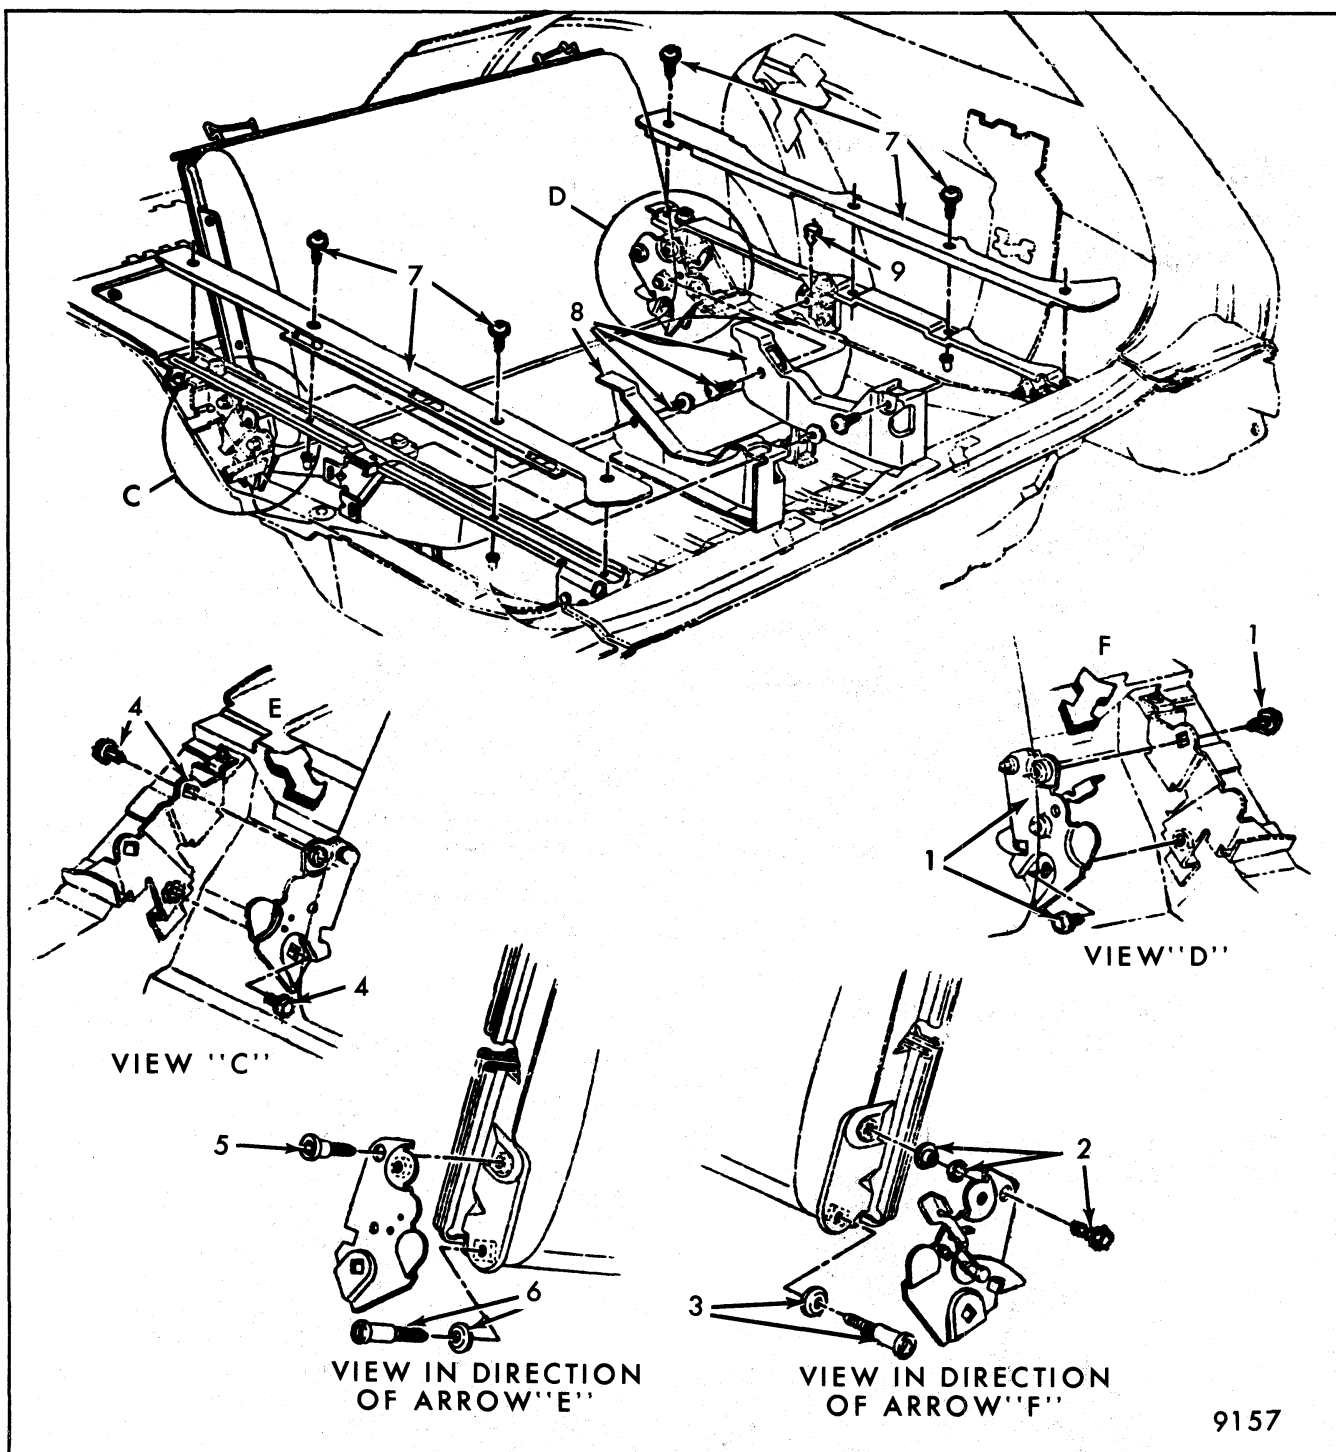

Fig. 9-90-Folding Third Seat Back and Lock Installation - "A" Body Three-Seat Styles
Removal and Installation - Refer to Fig. 9-90
- Remove right and left side filler panels and detach side filler panel supports (Fig. 9-90).
- Remove three pivot and lock support attaching bolts (right and left side) then lift seat back panel, pivot and lock support assembly from body (Fig. 9-90).
- To detach support and lock assembly from seat back panel remove two attaching bolts securing support to panel (Fig. 9-90).